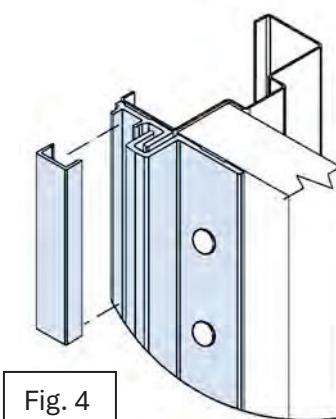

Fig. 4
- Starting at the top of the Latch guard, and using a plastic mallet or hammer and a block of wood, press the frame cover on firmly, working from top to bottom (Fig. 4)